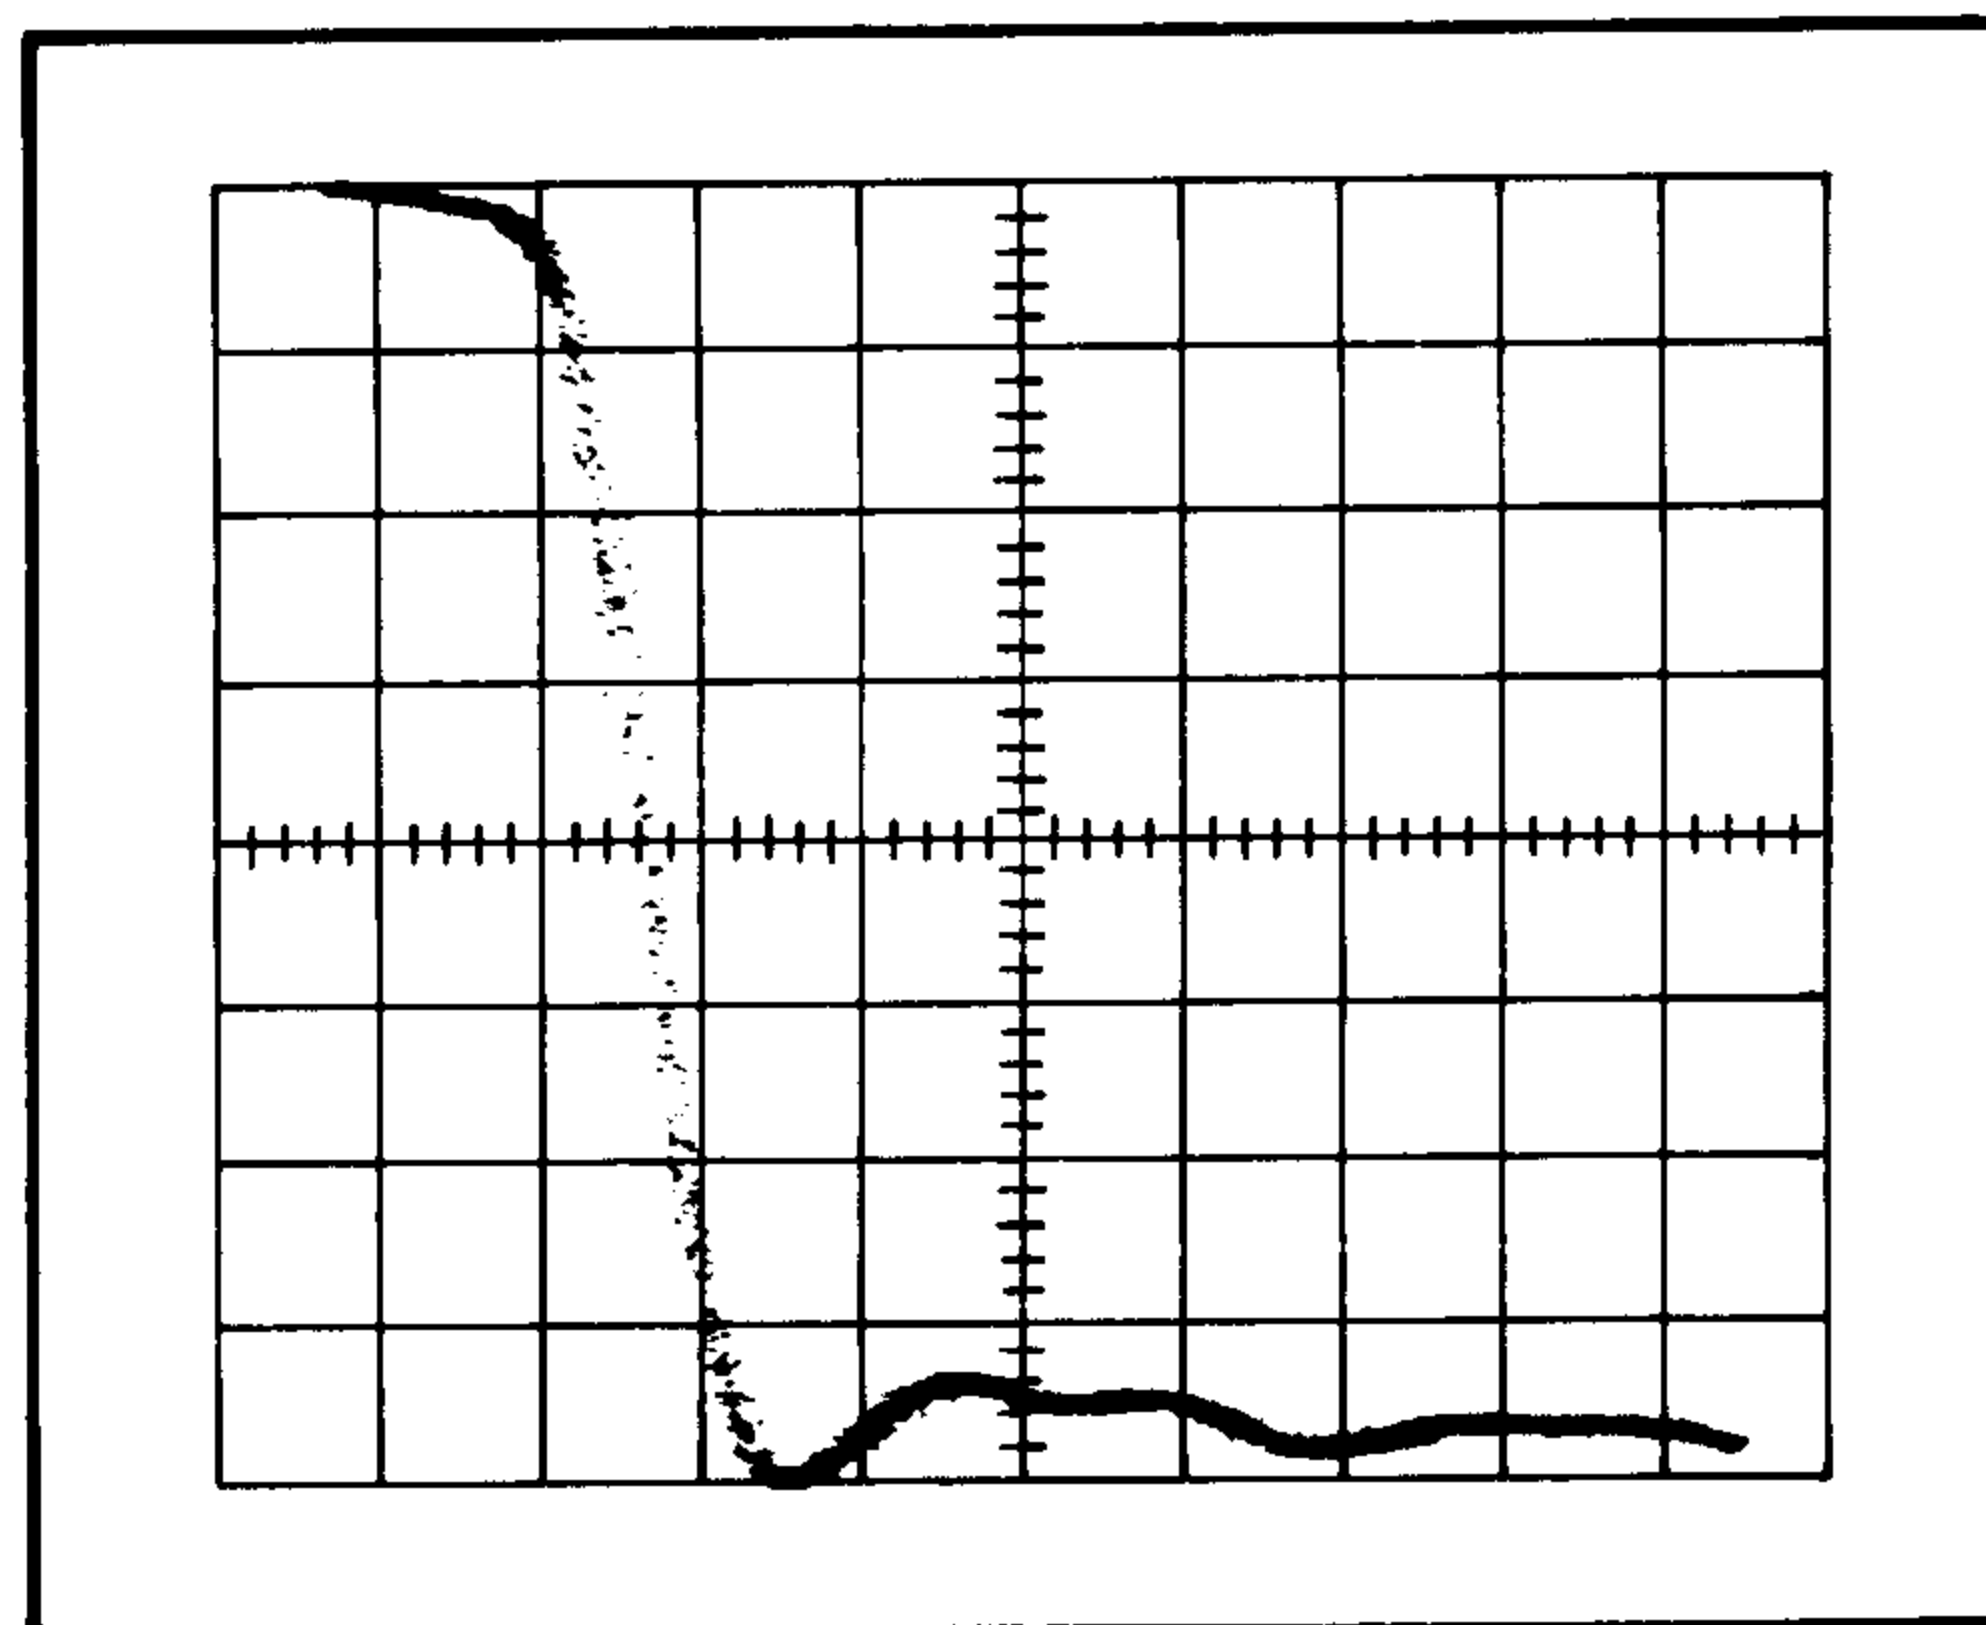

Fig. 5-1. Typical CRT display showing risetime.
f. Position the display as in Fig. 5-1. Read 90 ps or less from the 10% to 90% amplitude points.